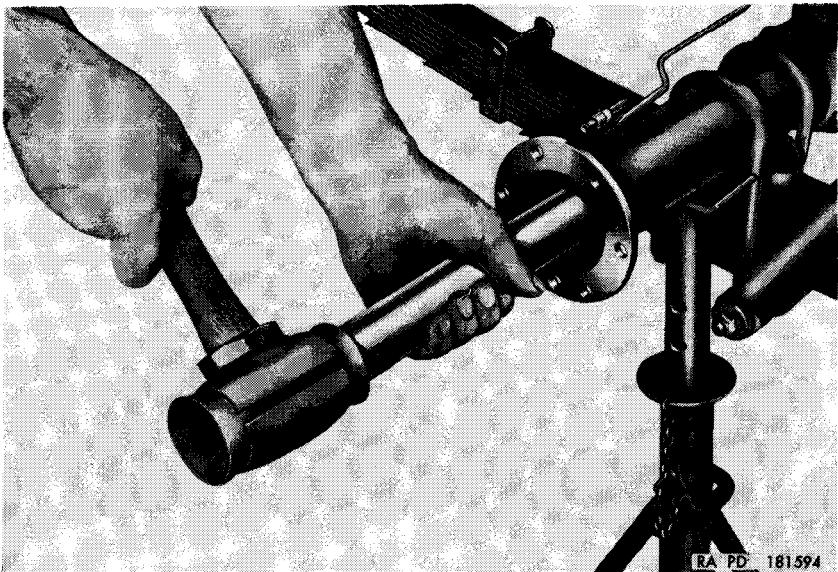

Figure 98. Installing inner oil seal in axle housing.
- (1) Position a new inner oil seal, with the lip facing inward, in the axle housing and carefully tap into place as shown in figure 98. Be sure that the seal is seated on the flange in the housing.